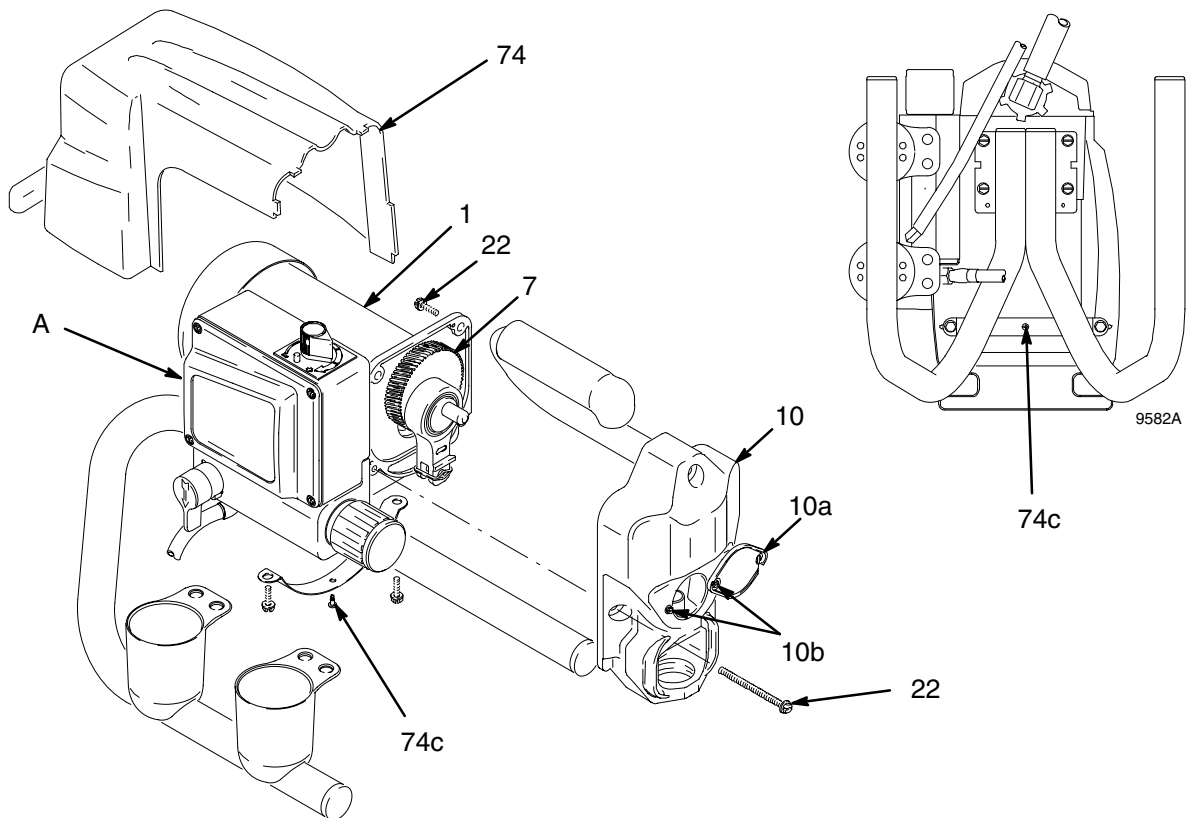

Fig. 10
- Remove pump (13); **Displacement Pump Replacement**, page 19.
- Fig. 10. Tip sprayer up. Remove screw (74c) and remove shroud (74).
- Remove two front screws (22).
- Remove two back screws (22).
- Pull drive housing (10) off of motor (1).
- Push drive housing (10) onto motor (1)
- Install two front screws (22).
- Install two back screws (22).
- Fig. 10. Tip sprayer up. Install shroud (74) with screw (74c).
- Install pump (13); **Displacement Pump Replacement**, page 19.